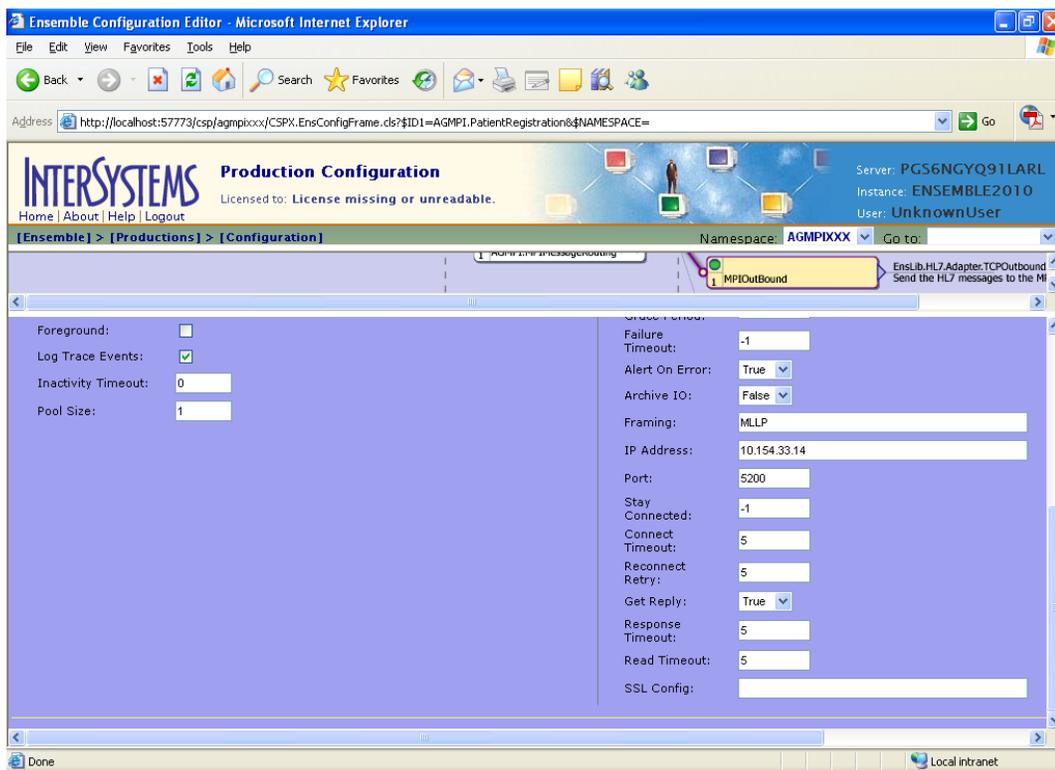

Figure 5-22: MPIOutBound configuration settings
1. Click **MPIOutBound** in the top pane of the **Ensemble Configuration** page to display the MPIOutBound configuration settings in the bottom pane, as shown in Figure 5-22.